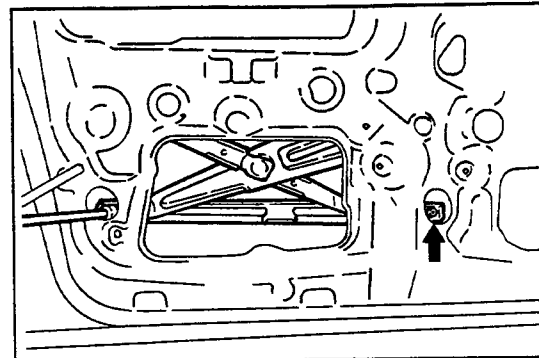

Fig. 9-133
- (1) Install the front door glass subassembly. (See Fig. 9-133.)
- (2) Close the front door glass fully. Then, lower the front door glass 40 mm (1.57 inches).
- (3) First loosen the bolts **(A)** and then tighten them again.